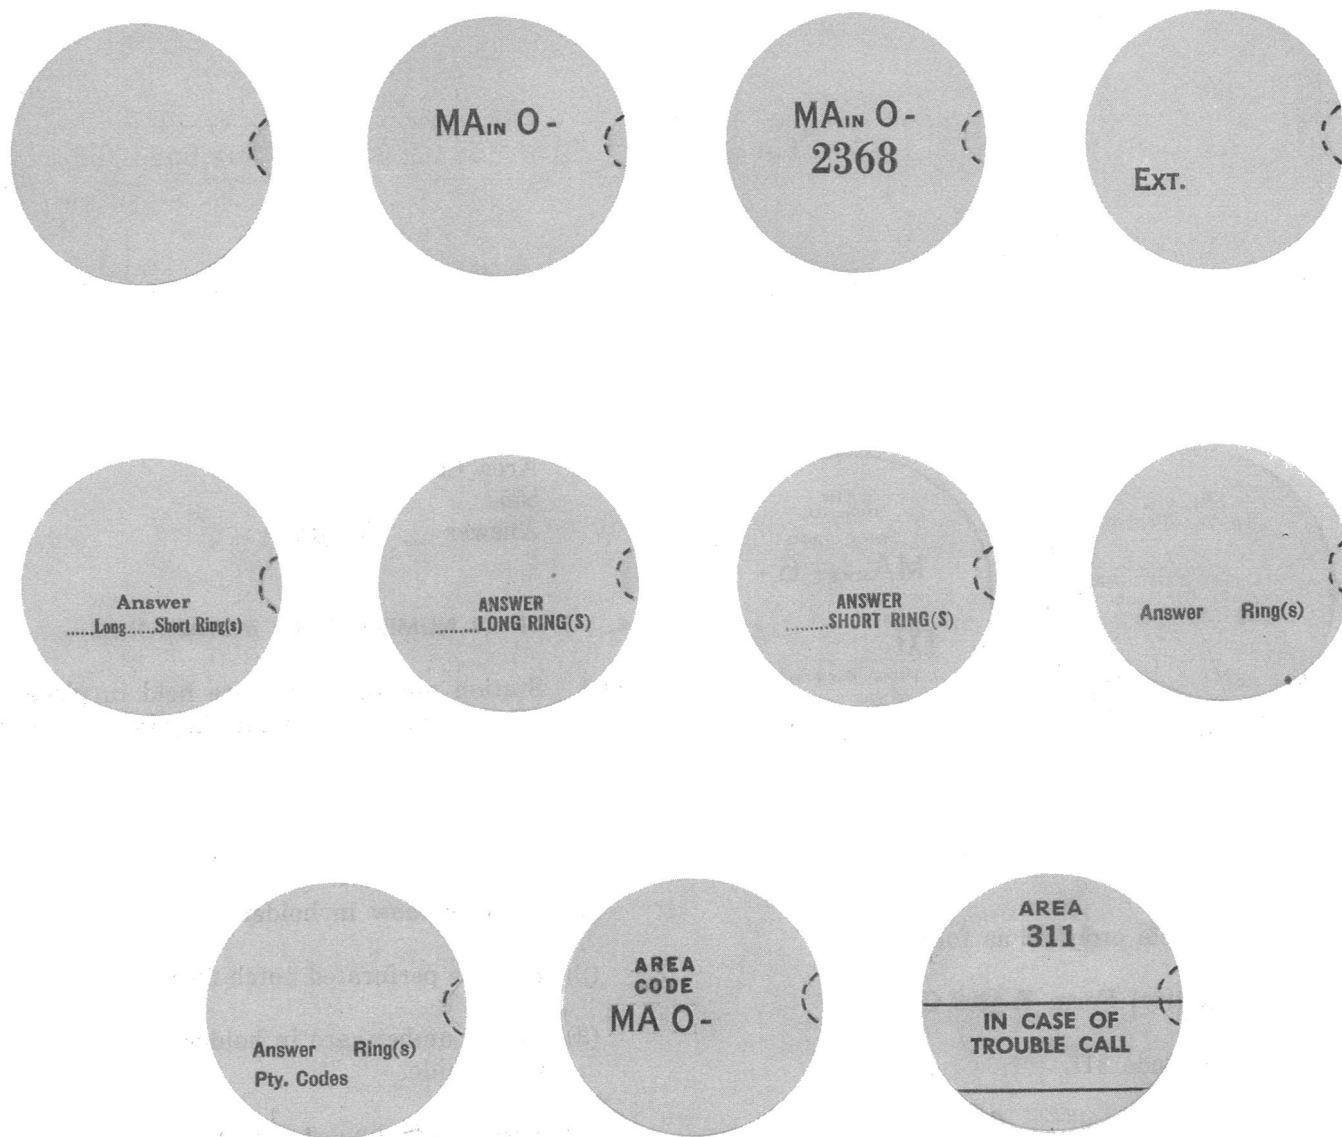

Fig. 7—Form E-4204-G Examples of Special Instruction Cards
2.07 Forms E-4204-G may be ordered with special instructions as shown in Fig. 7. There is a limited amount of space for instructions.